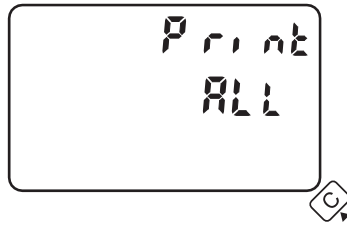
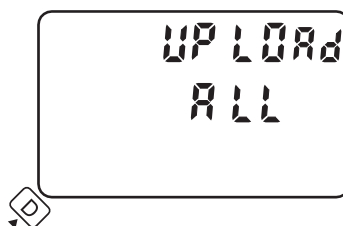

Fig. 20
Fig. 22
- Press C button to go to the PRINT ALL mode as shown in Fig.20. Pressing A button will print all recorded memories to the printer (if printer is connected). When the stopwatch is in the process of printing, an indicator moves from right to left. When printing is complete PRINT END is displayed.
- In Fig. 20 press D button once will switch to UPLOAD MODE as shown in Fig.22. Pressing A button will UPLOAD ALL recorded memories to computer (if computer is connected). When the stopwatch is in the process of uploading, an indicator moves from right to left. When upload is complete UPLOAD END is displayed.